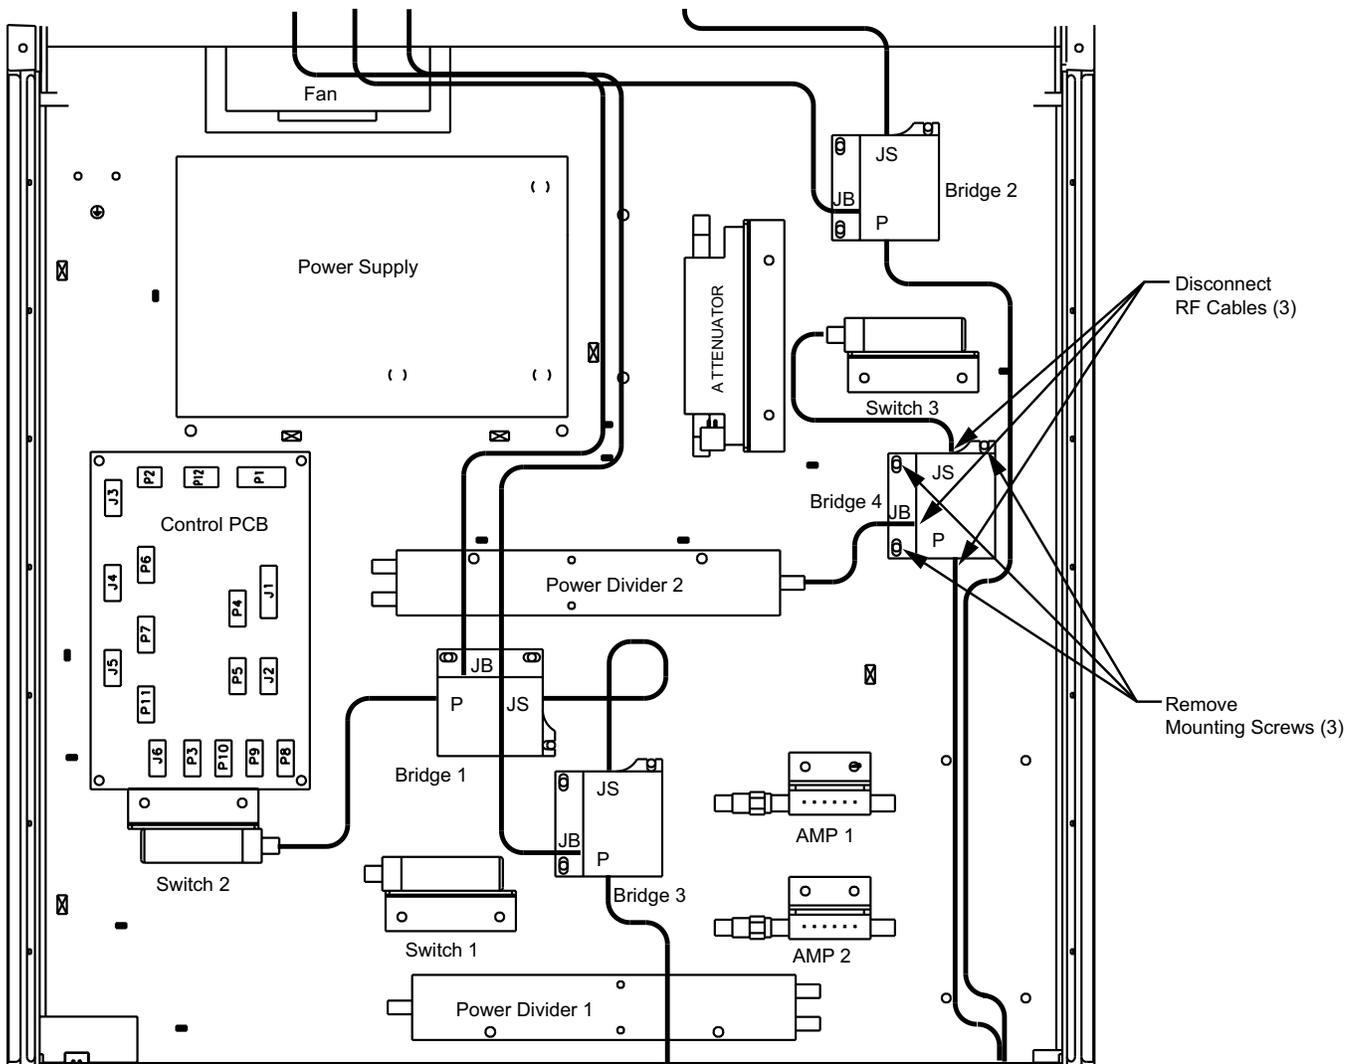

Figure 5-10. Port Module Removal
- Step 2.** Use a 5/16 inch wrench to disconnect the RF cable connections on the port module at ports P, JB, and JS (Figure 5-10).